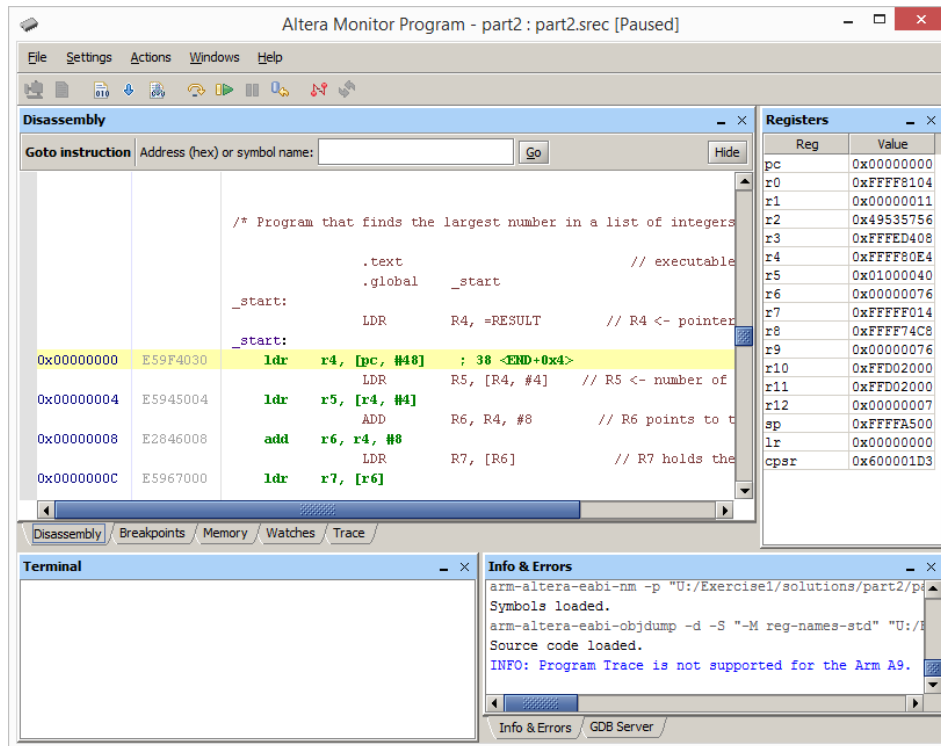
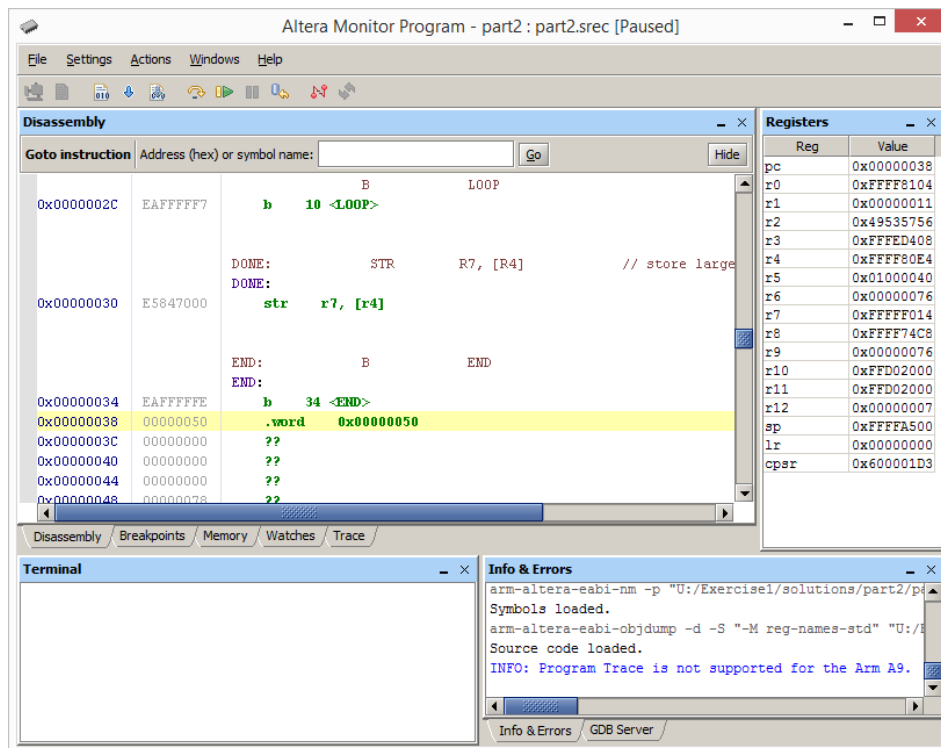

Figure 10: The disassembled view of the program in Figure 9.
Figure 11: The constant 0x00000050 in the literal pool at address 0x00000038.
4. The Monitor Program will display a disassembled view of the machine code loaded in the memory, as indicated in Figure 10. Note that the pseudoinstruction **LDR R4, =RESULT** from your source code has been implemented by using the instruction, **LDR R4, [PC, #48]**. This instruction loads the 32-bit address of the label **RESULT** into register R4. After this instruction has been executed, the content of register R4 will be 0x00000050, because this is the address in the memory of the label **RESULT**. The **LDR R4, [PC, #48]** instruction loads the required 32-bit constant 0x00000050 from the *literal pool*, where this value has been placed by the assembler/linker. The address in the literal pool is calculated as $[pc] + 8 + OFFSET$, where $OFFSET = 0x30$ in this case (48 in decimal). The reason that 8 is added has to do with the way that the ARM processor automatically increments its program counter register as instructions are being executed. Hence, the location in the literal pool where the processor gets the constant 0x00000050 in this case is $0 + 8 + 0x30 = 0x00000038$. You can use the Monitor Program Disassembly tab (or the Memory tab) to verify that the constant 0x00000050 is in the literal pool at the address 0x00000038. Figure 11 shows the literal-pool constant in the Disassembly window. You can single-step the instruction **LDR R4, =RESULT** in the Monitor Program to verify that it sets R4 to the value 0x00000050.